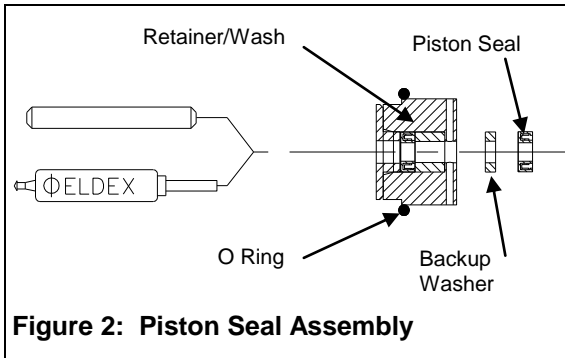
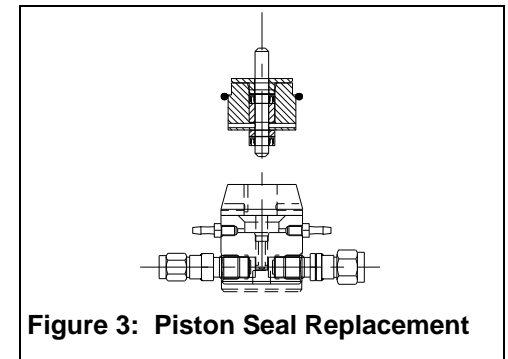

Figure 2: Piston Seal Assembly
Figure 3: Piston Seal Replacement
10. Insert the installation tool /dowel pin into the retainer and then into the new seal backup washer (present only on 1HI, 2HI, and 3HI models) and new piston seal. When inserting the tool through the new piston seal, the piston seal should lay flat on a hard surface with the open side down (the seal will generally "snap" onto the tool). Position the parts on the tool as shown in Figure 2. Line up the holes in the retainer/wash with the wash ports on the liquid end. Insert the tool into the liquid end bore as shown in Figure 3. **CAUTION:** the open side of the seal (side revealing the spring or the O ring) should face the closed (fluid side) end of the liquid end.